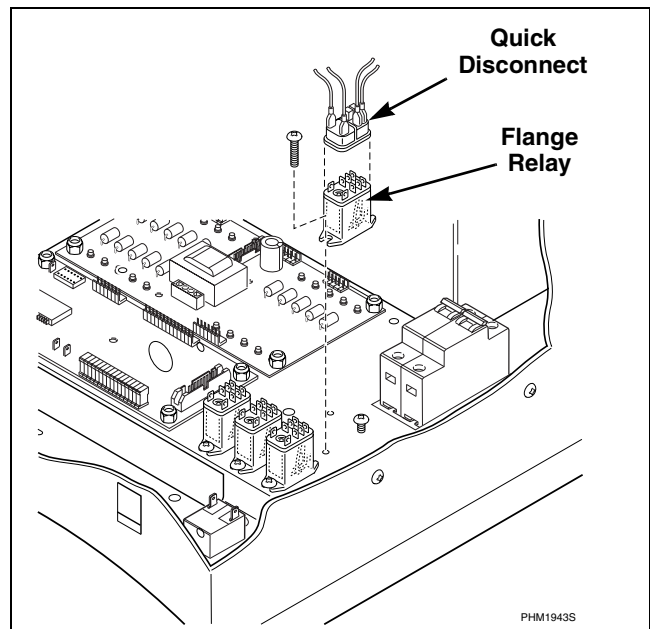

Figure 24
- Remove the quick disconnect from the top of the flange relay. Refer to *Figure 24*. All wires remain in the same spot.
- Remove one of the screws that attaches the flange relay to the control module. Refer to *Figure 24*.
- Remove the flange relay. Refer to *Figure 24*.